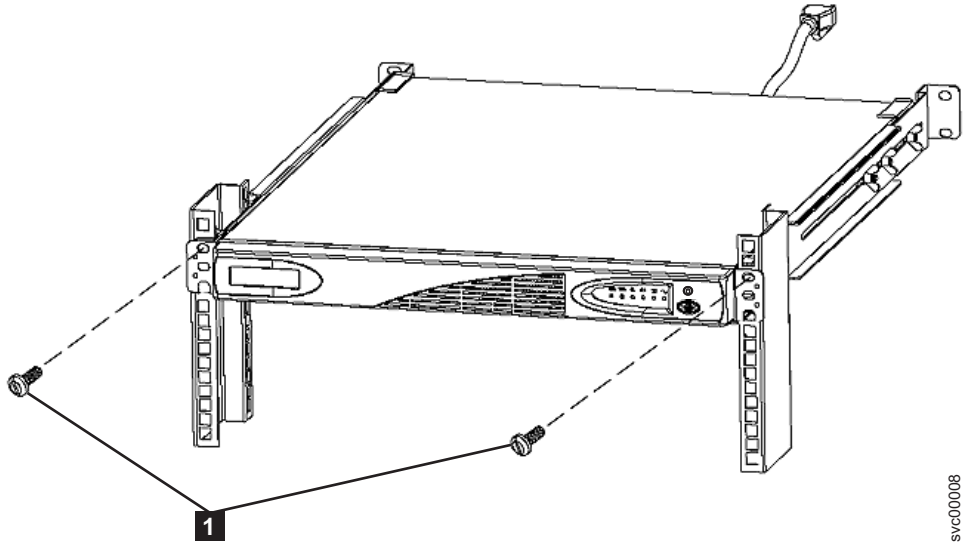

Figure 231. Mounting screws for the 2145 UPS-1U
9. At the front of the 2145 UPS-1U, unscrew the two mounting screws **1**, as shown in Figure 231 on page 246.